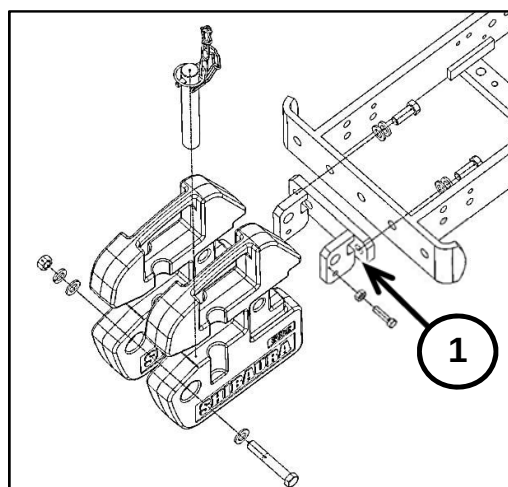

Figure 2-64
If front hitch function or additional front weights are needed for counter-balancing a rear mounted implement, an optional front weight bracket (1) in Figure 2-64, can be installed to the front of the tractor. With the bracket installed, a maximum of (6) 30kg weights can be installed with front hitch function.